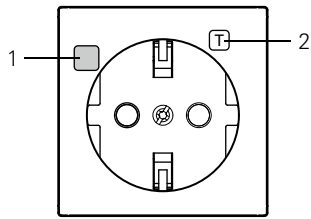

Fig. 1
- RCD-protected socket outlet, fig. 1